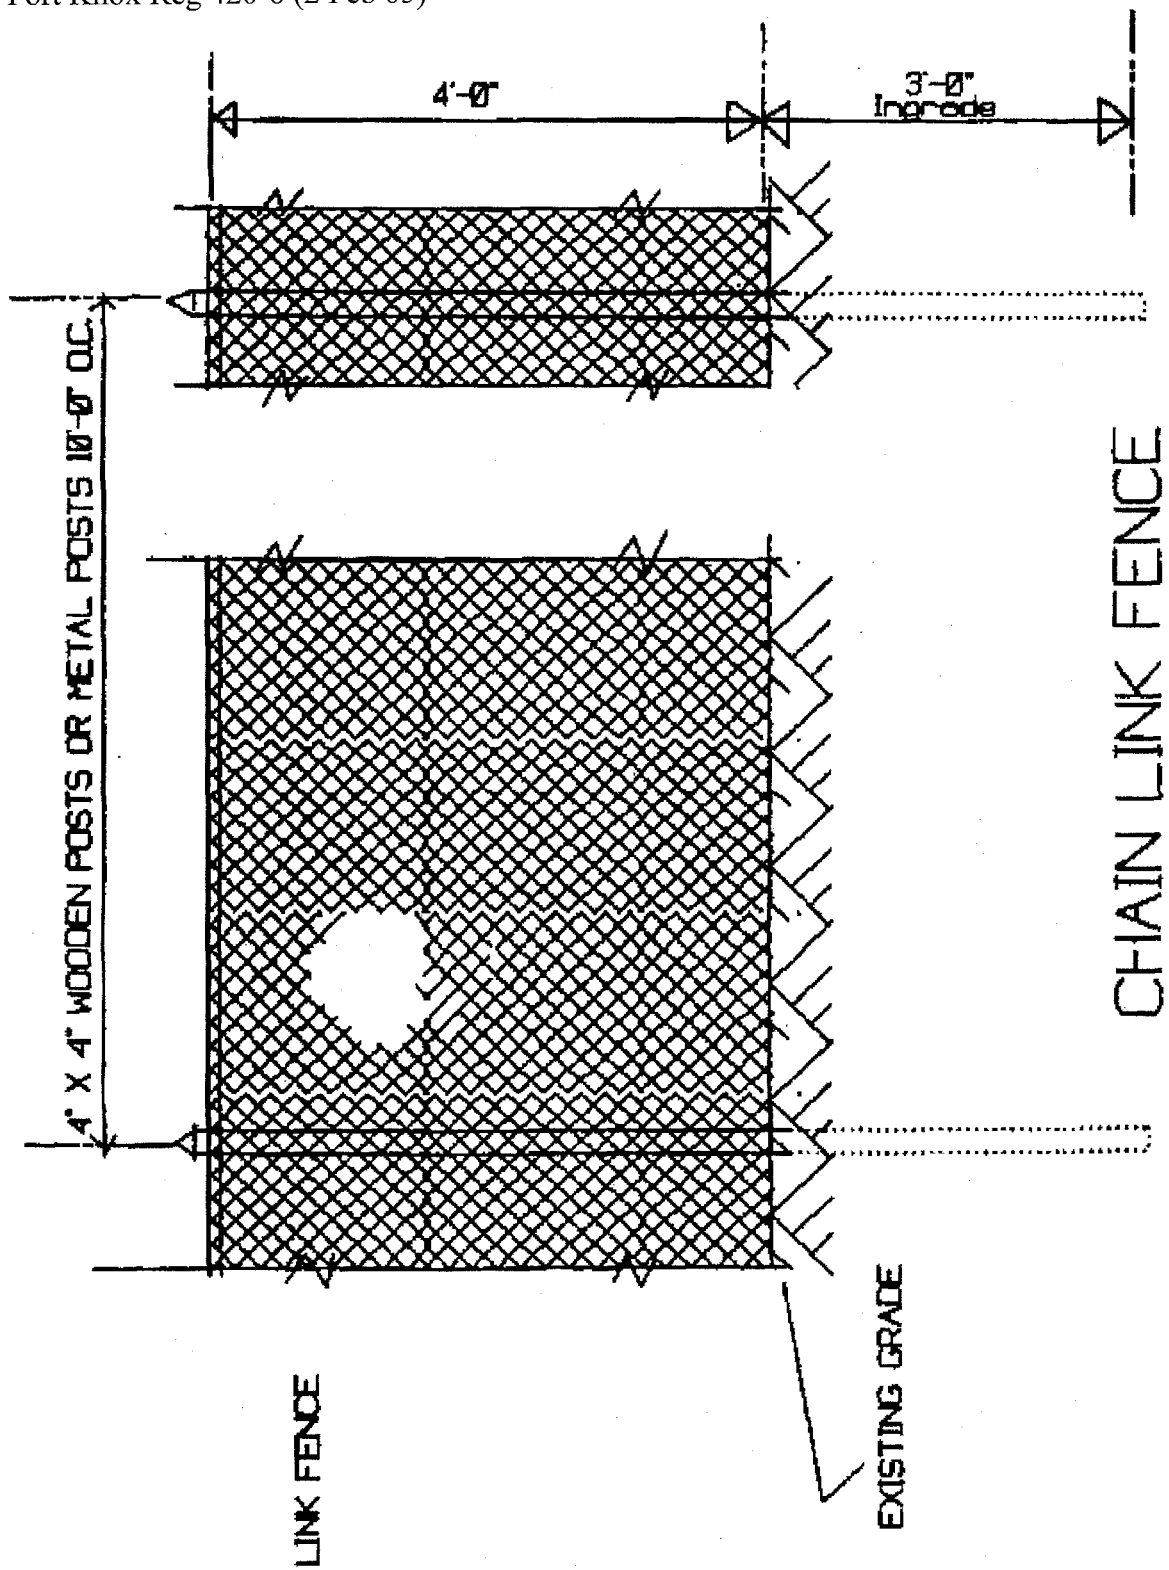

Figure A-3. Engineer Drawing F-11123 – Illustration of Chain Link Fence
(3) Chain link type. Chain link fences will conform to Engineer Drawing F-11123 (Figure A-3) and will be 4 feet in height. Commercial type metal round posts or wooden posts made of 4- by 4-inch material will be used. Posts will be placed in the ground at least every 10 feet. Posts should be placed 10 feet on center.